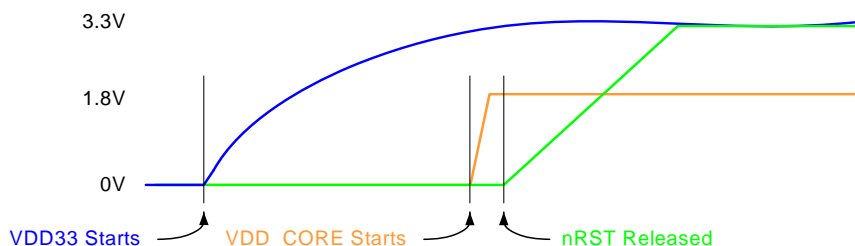

Figure 5.1 Reset Timing Diagram
**Hardware reset (HWRST):** connected to the nRST input. At power up, nRST must not go high until after the VDDIO and VDD\_CORE supplies are stable, as shown in Figure 5.1.